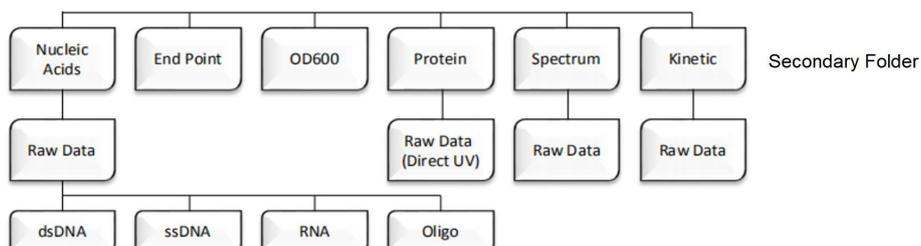

Fig. 3-24
Selected data or entire data on the list can be saved as .csv (Microsoft Excel) file in USB Flash Drive by selecting “data Transfer” in the search list panel. For this process, a USB Flash Drive must be plugged into one of the USB ports on the right side of the instrument. The transferred files will be saved. Please refer to Fig. 3-24 on pg. 20 for detailed location of the files. Nucleic Acids, Kinetic, spectrum and Direct UV will include Raw Data for each measurement in Raw Data folders.
7. Find the files in main folder (Fig. 3-24). Each file will be titled as the name input during the process